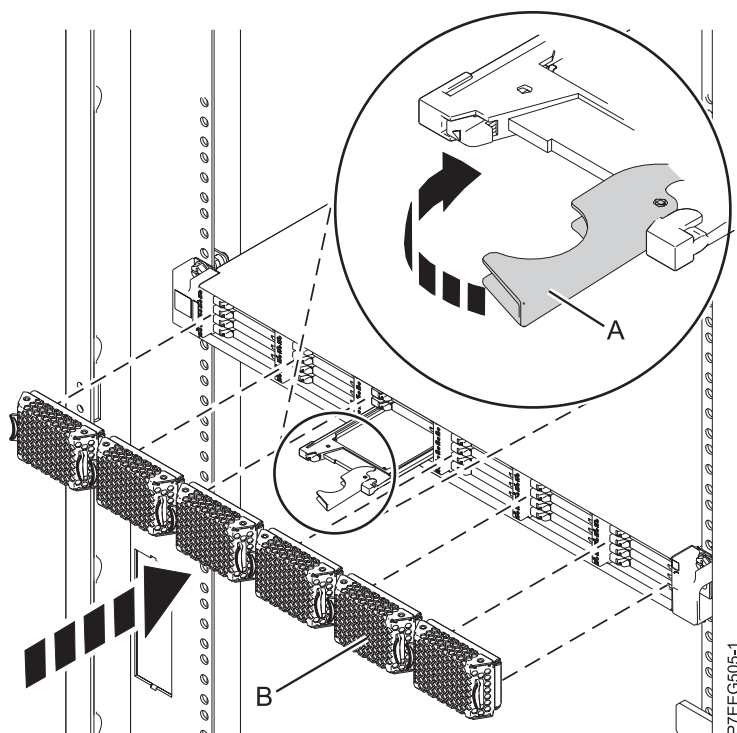

Figure 13. Installing a solid-state drive in the EDR1 PCIe storage enclosure
1. With the handle in the unlocked position, align the solid-state drive with the guide rails in the enclosure. See Figure 13 on page 22.
5. Rotate the handle (A) to the locked position.
6. Install the bezel (B).